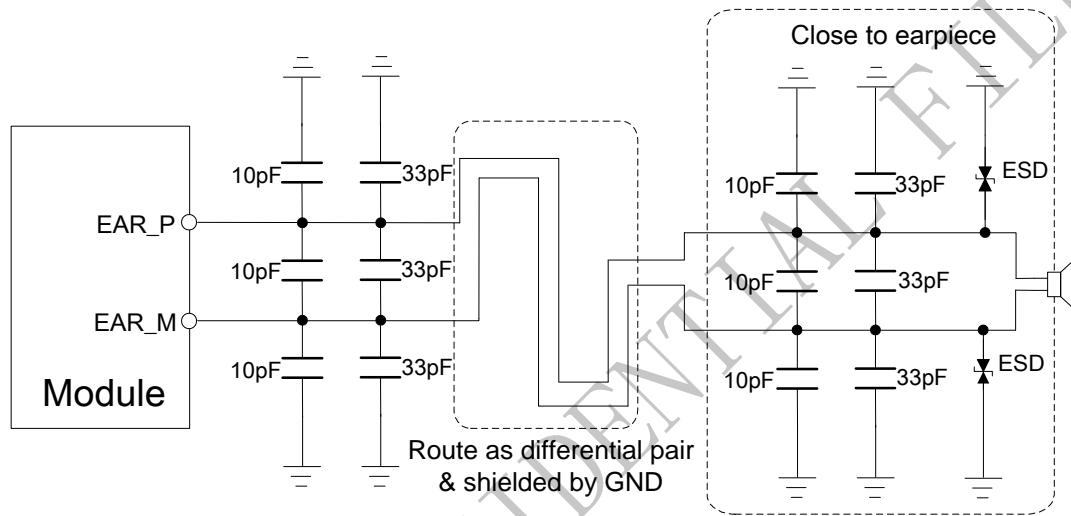

Figure 22: Earpiece reference circuit
A 100KΩ pull-down resistor is integrated at HPH_L pin, which could be used for mechanical insertion or removal detection through HS_DET pin. Figure 22 shows the reference circuit for normally-closed (NC) type headset jack.